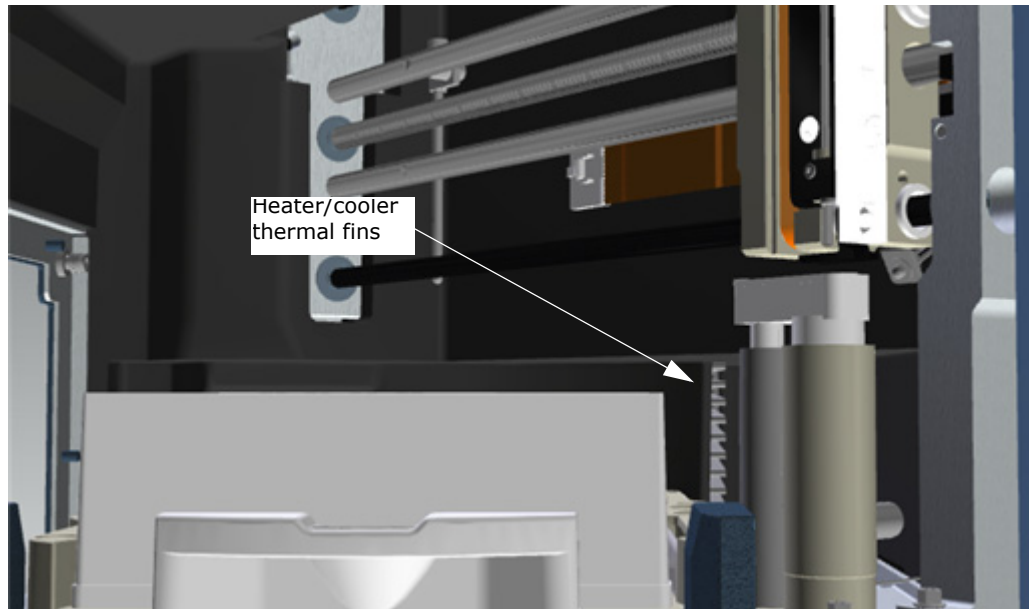
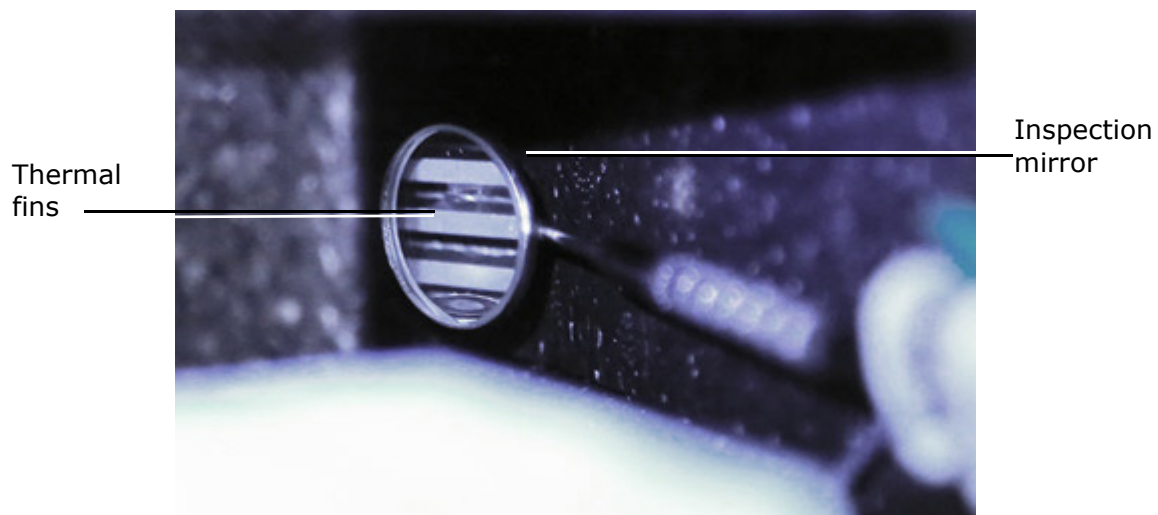

Figure 63 - Location of heater/cooler thermal fins in the sample compartment
Figure 64 - Checking the thermal fins for icing
1. Using an inspection mirror, observe the thermal fins on the heat sink (see Figure 63 and Figure 64).